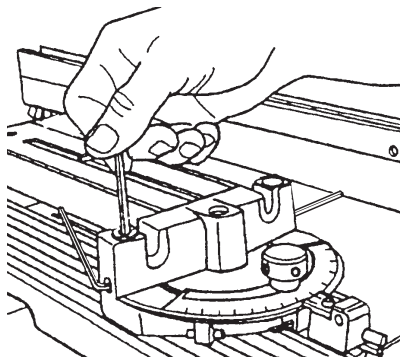

Figure 80
2. Insert the Long 5/32" Allen Wrench through the Miter Gauge and secure it using the Short 5/32" Allen Wrench and a Set Screw borrowed from the Tool Rest, as seen in Figure 80.